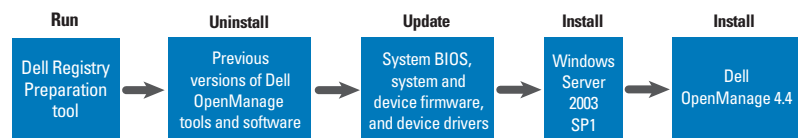

Figure 2. Recommended installation process on servers running Dell OpenManage 4.2 or earlier
- **Dell OpenManage 4.2 or earlier:** Administrators should run regprep; uninstall the previously installed Dell OpenManage tools and software; update the system BIOS, system and device firmware, and device drivers; install SP1; and then install Dell OpenManage 4.4 (see Figure 2).